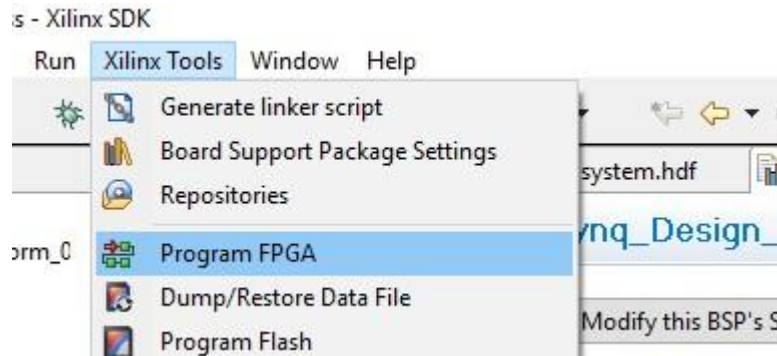

Figure 28: Program FPGA menu option.
1. Download the bitstream to the FPGA by selecting **Xilinx Tools** → **Program FPGA** from the menu bar (Figure 28).